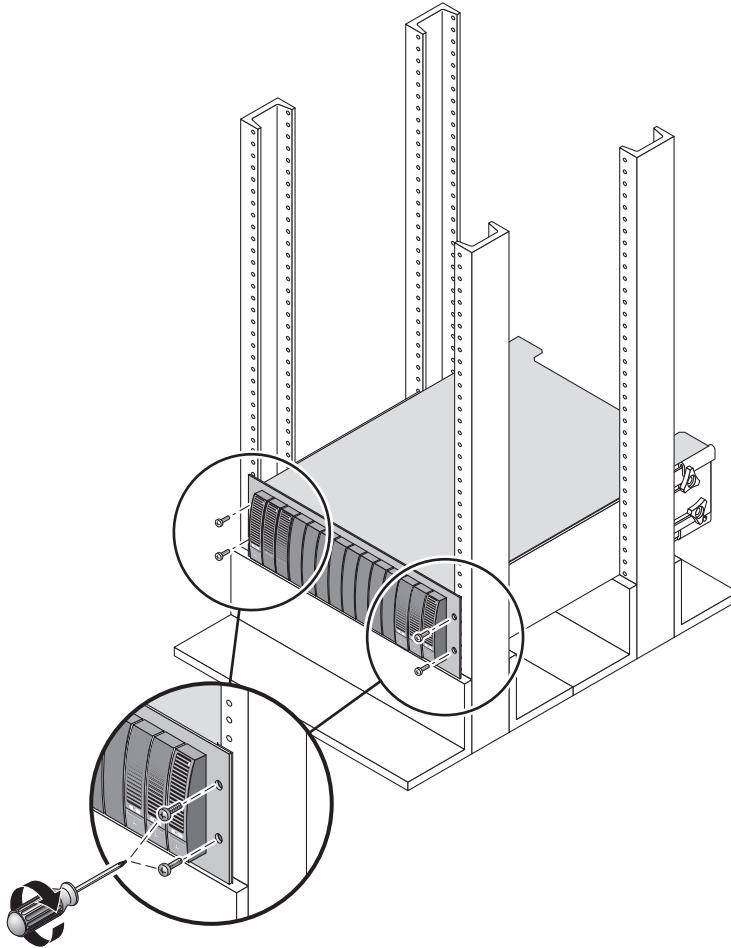

FIGURE 17 Securing the Array Module to the Front of the Telco 4-Post Rack
4. Use the #2 Phillips screwdriver to insert and tighten four 10-32 screws (two per side) to secure the module to the front of the rack (FIGURE 17).